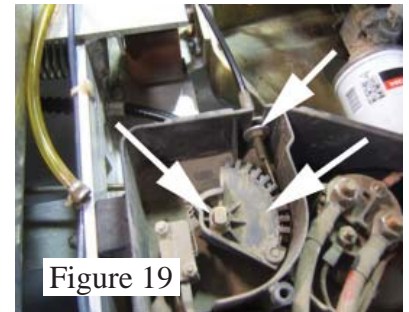

Figure 19
16. Loosen both 10 mm jam nuts holding the throttle cable to the solenoid box. Remove the C-clip holding the plastic throttle rotor to the pedal linkage. Remove the rotor, disconnect, and remove the throttle cable and set everything aside. (See Figure 19).